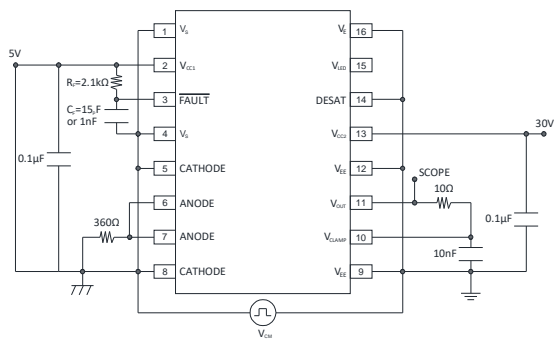

Figure 13 : CMR Test Circuit LED1 ON
23. Split resistors network with a ratio of 1:1 is needed at input LED1. See Figure 13. together.